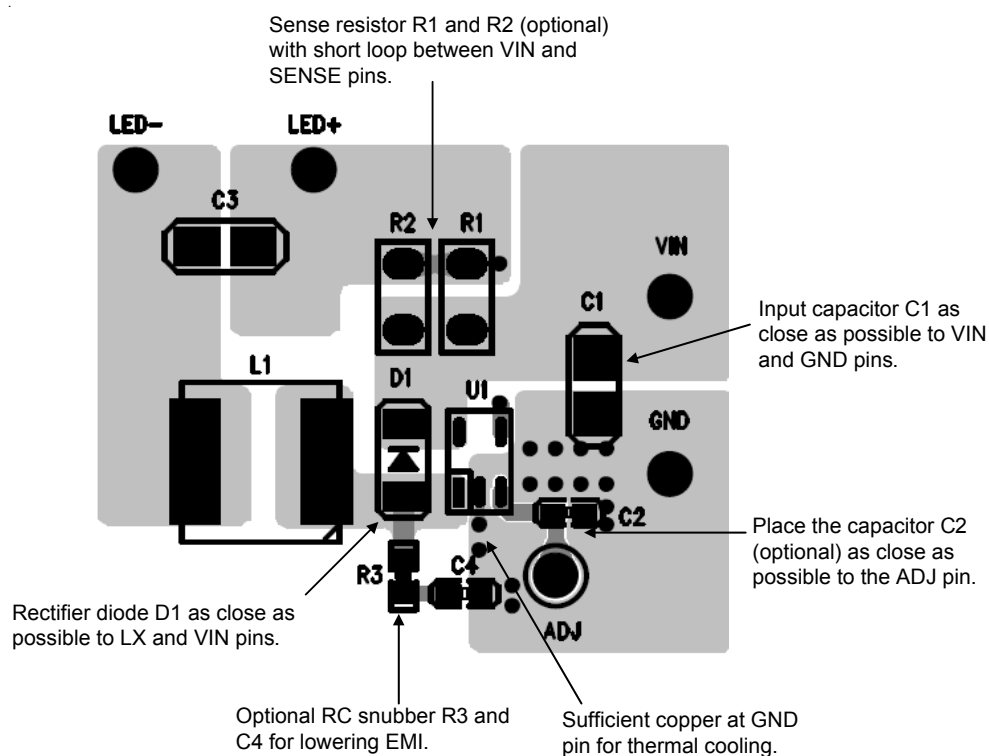

Figure 3. PCB Layout Guide (Top Layer)
- ▶ An example of PCB layout shown as Figure 3 and Figure 4 for reference.